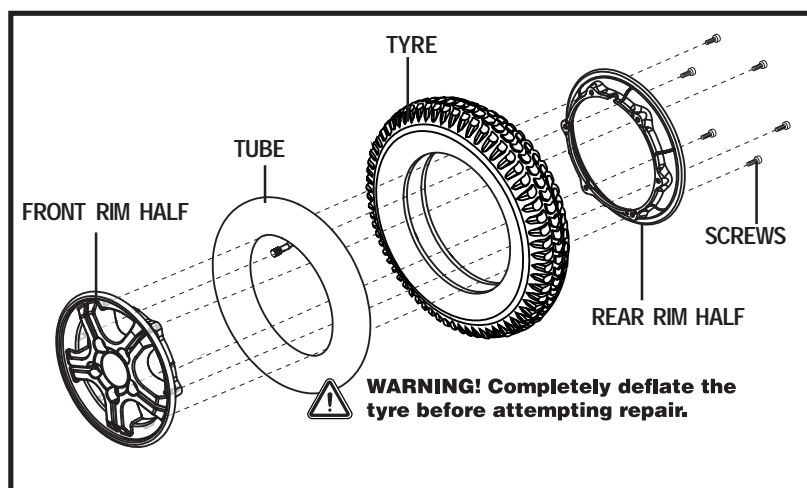

Figure 16. R-4000 Drive Wheel Disassembled
6. Remove the screws and separate the front and rear rim. See figure 16.
10. Reinstall the five (5) lug nuts and tighten.